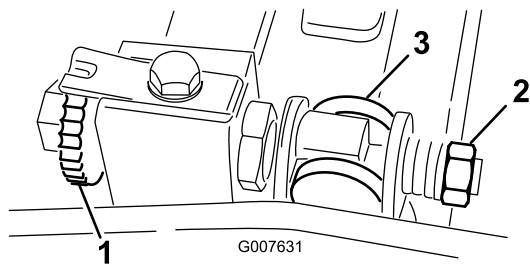

Figure 55
1. Turn the bedbar adjuster screw counterclockwise to back the bedknife away from the reel (Figure 55).
2. Back out the spring tension nut until the washer is no longer tensioned against the bedbar (Figure 55).